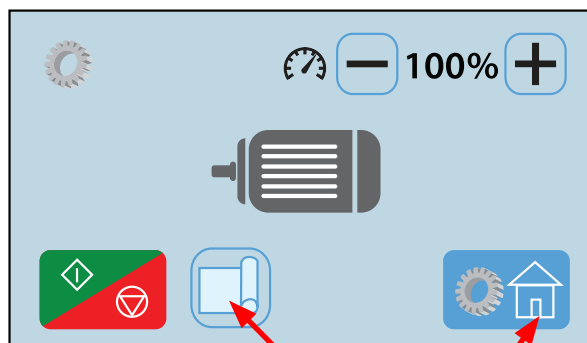

Fig. 59
- To test paper clutch load paper onto the in-feed tray and press the paper feed icon “” in the lower left corner to feed a sheet of paper (Fig. 59).